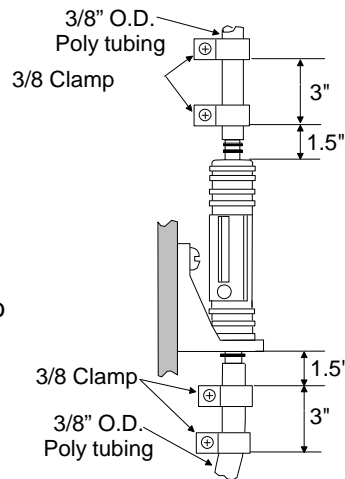

Fig 1-5
5. Connect 3/8" OD poly tubing from your RO unit to AG110-001 inlet port and 3/8" OD poly tubing from the AG110-001 outlet port to the drain line adapter. Use provided clamps and screws to secure tubing. (See FIG 1-5)